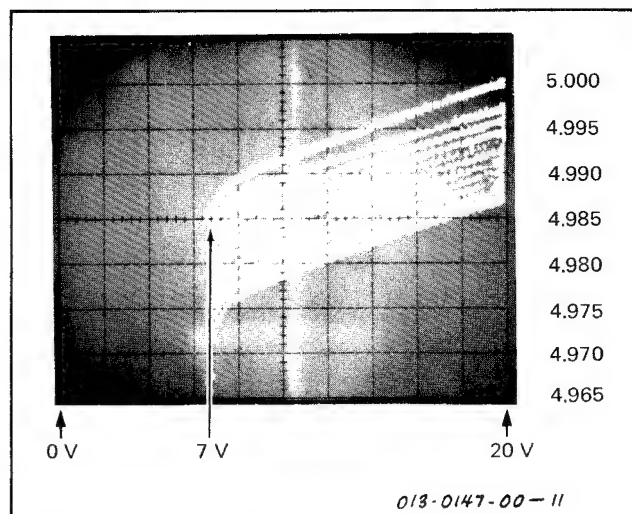

Fig. 2-15. Illustration of dropout voltage test, part h.
h. Adjust SWEEP AMPLITUDE for a 6-volt to 20-volt horizontal display (three divisions to 10 divisions) as shown in Fig. 2-15. This is a sampled display and takes several seconds to store the complete display.